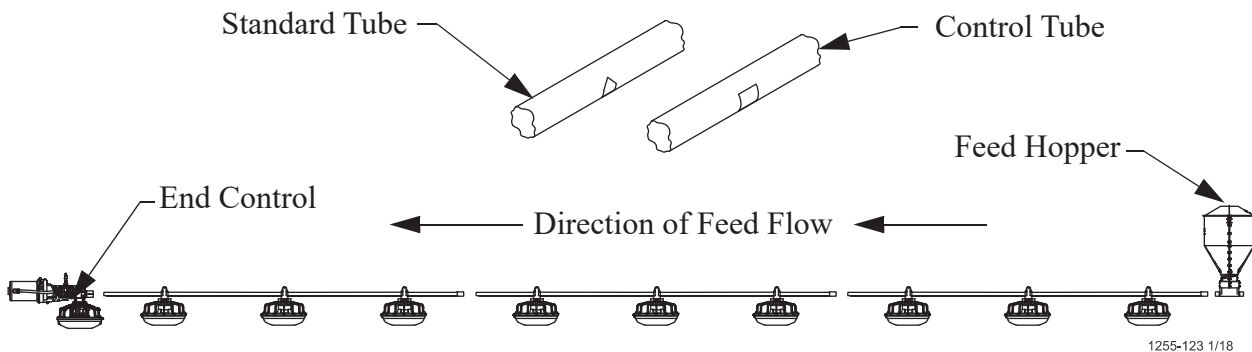

Figure 32. Hanger Installation
1. The auger tubes and feeders may be laid out end to end in approximately the final location of the line. **The belled end of each tube should be toward the Hopper end of the line.** Figure 32.